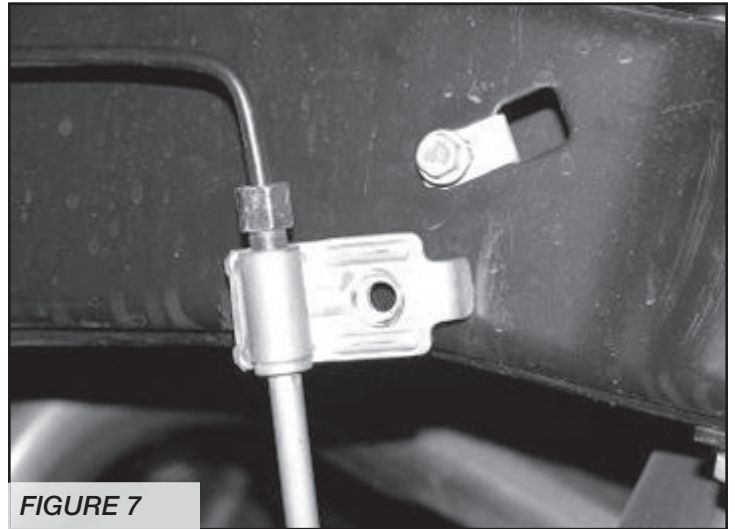

FIGURE 7
14. Remove the brake line bracket from the frame and save the hardware. Remove the plastic clip that holds the ABS lines to the frame and at the rear upper link arm pockets. Do not damage the clips, they will be reused. Remove the top differential cover bolt and remove the wheel speed sensor line clamp. Save the bolt. Remove the two nuts holding the E-Brake cable to the body of the Jeep and save. SEE FIGURE 7